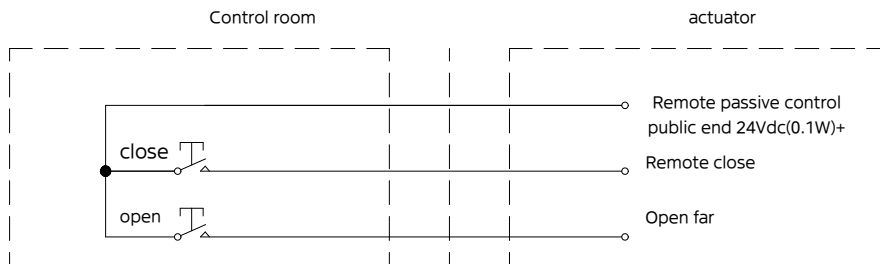
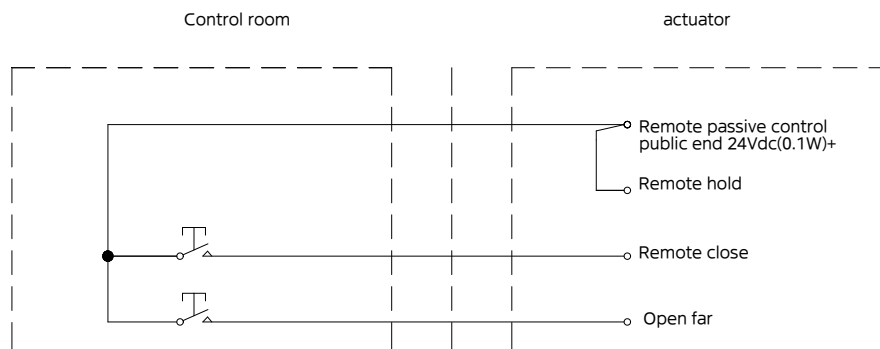
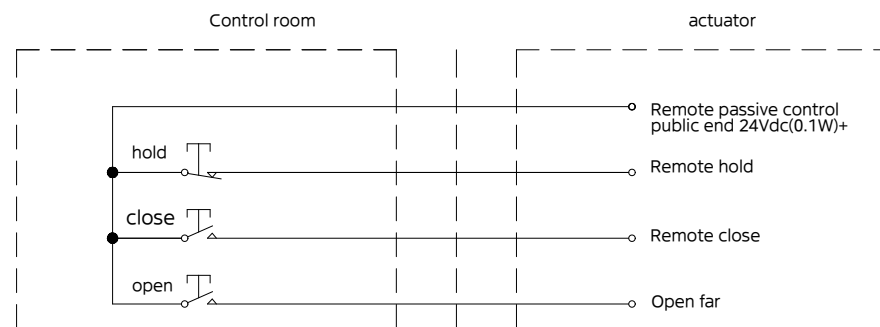

Figure 1: Point-motion open and close control, the actuator can be stopped at any position in the middle
Figure 2 Hold open and close control, reversible stroke, but can not stop in the halfway position
Figure 3 Hold open, close and stop controls
7.1.1 Provide 24VDC low voltage control inside the actuator, see Figure 1, Figure 2 and Figure 3 for connections.